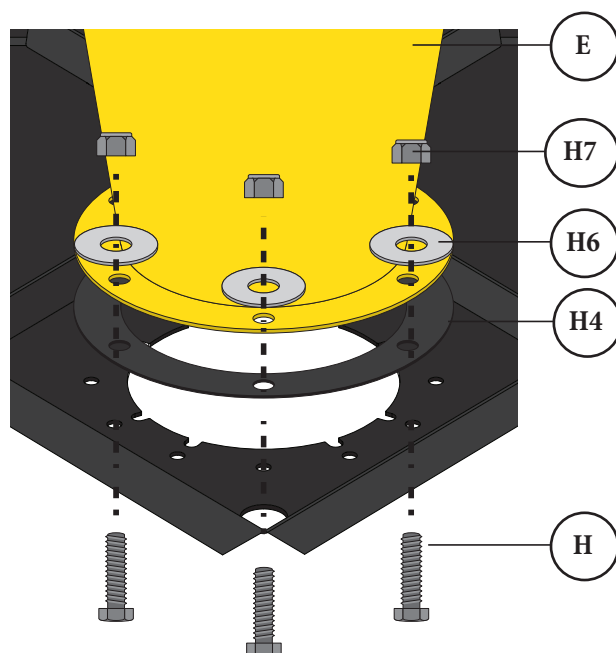

FIG. 8a
Place the Flange Gasket (H4) and the Cyclone (E) onto the Stand Body (F) and align the hole patterns on all three items. Secure together using six Hex Head Bolts (H5), six Flat Washers (H6), and six Nylock Nuts (H7) as shown in [FIG. 8a].